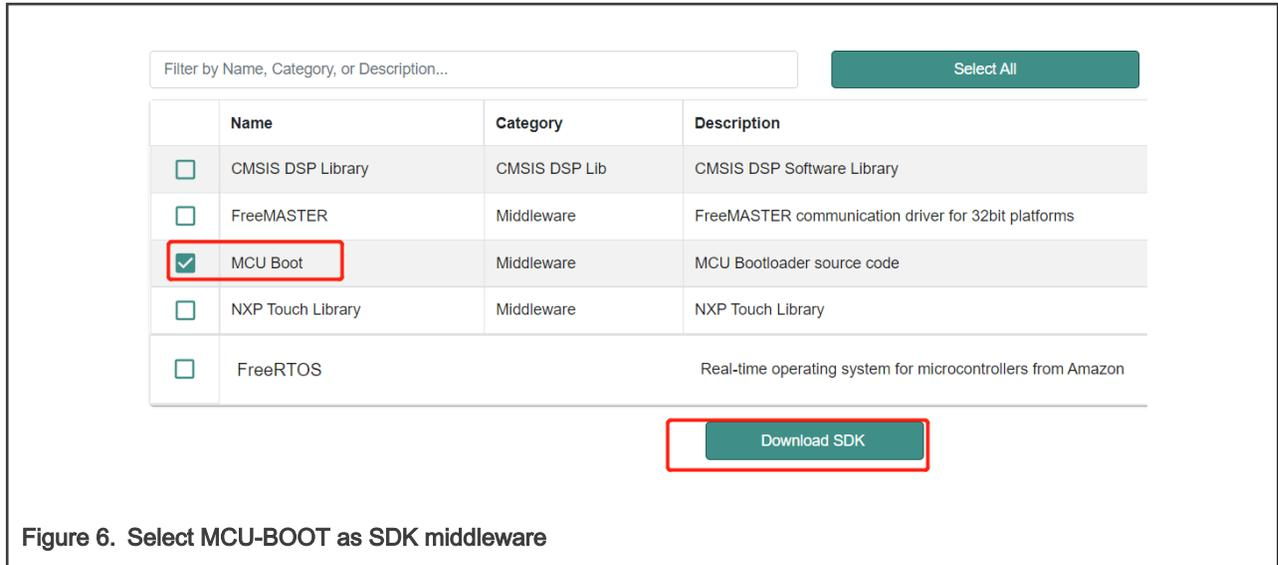

Figure 6. Select MCU-BOOT as SDK middleware
2. Click **Build SDK**, select **mcu-boot**, and click **Download SDK**, as shown in Figure 6.